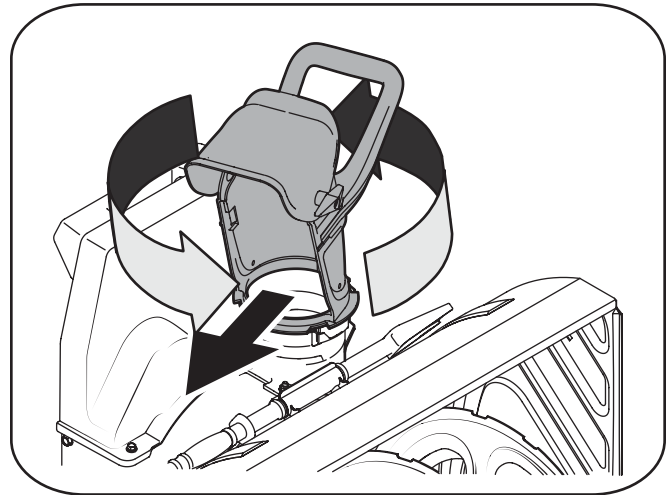

**Figure 7-1**
1. Replace the shear pins as shown in Figure 7-1.